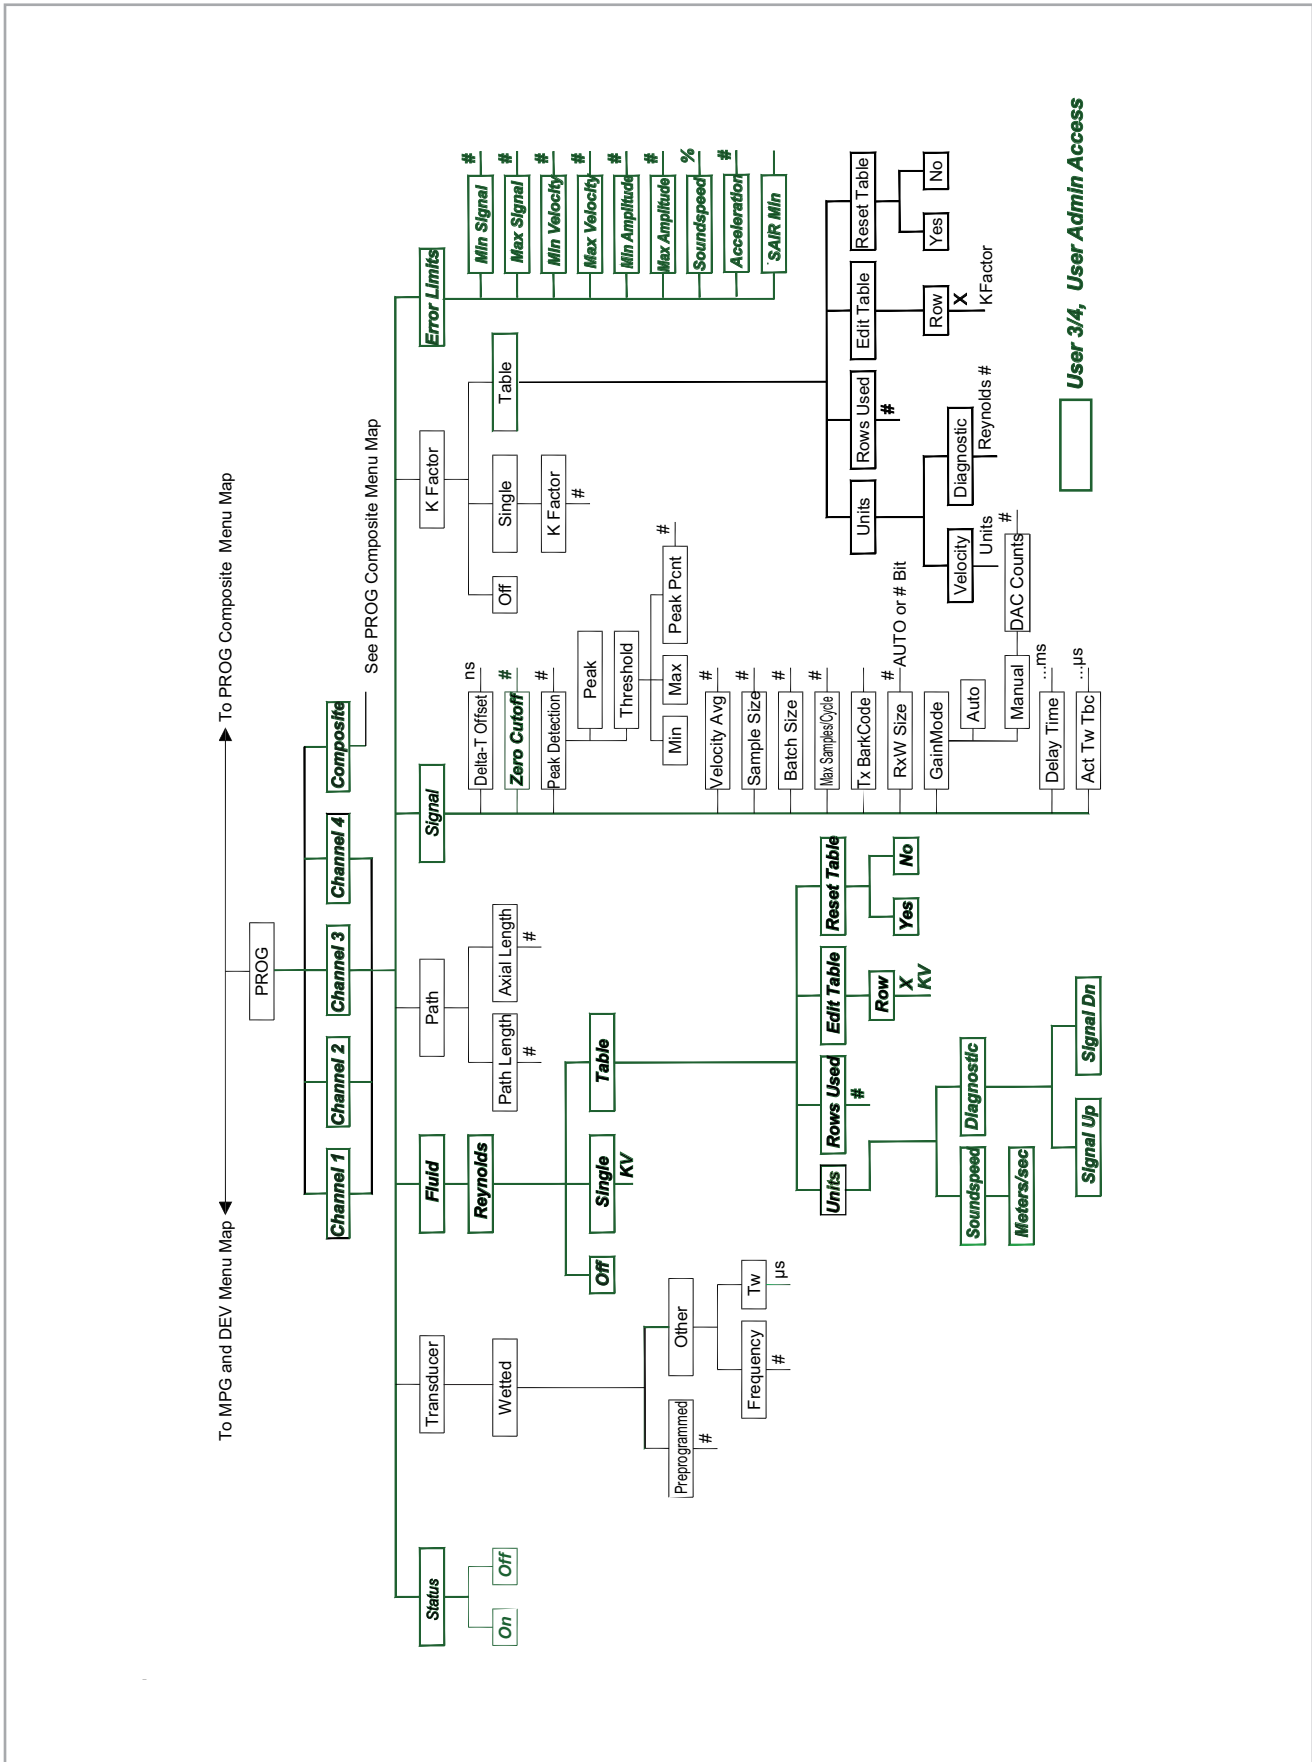

Figure 66: PROG-CHANNEL menu map
- Figure 66, "PROG-CHANNEL Menu Map," on page 92